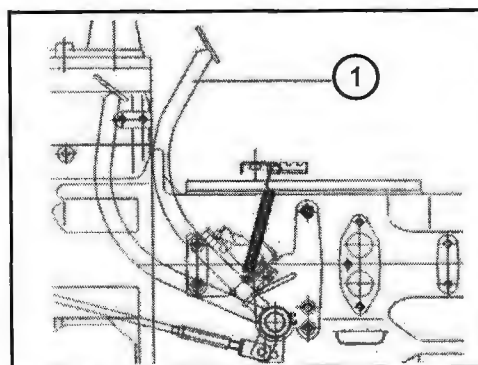

Fig. 7-2 -- Transmission Clutch Pedal
6. Transmission Clutch Pedal - The clutch pedal operates the transmission via a mechanical linkage. Depress the clutch pedal before starting the engine. If not depressed, the safety start switch will not allow the tractor to be started. (See Fig. 7-2)